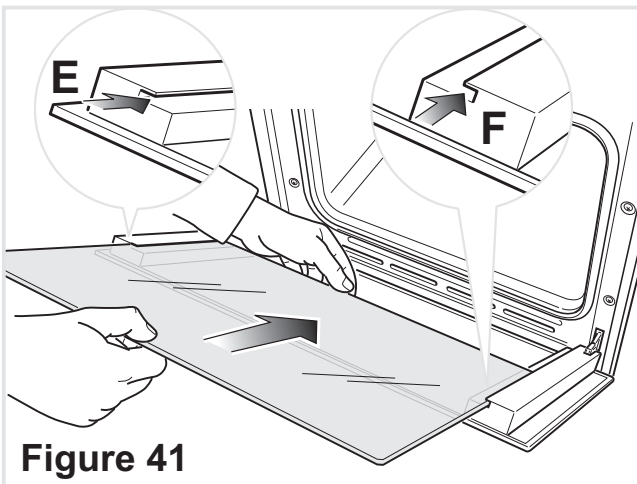
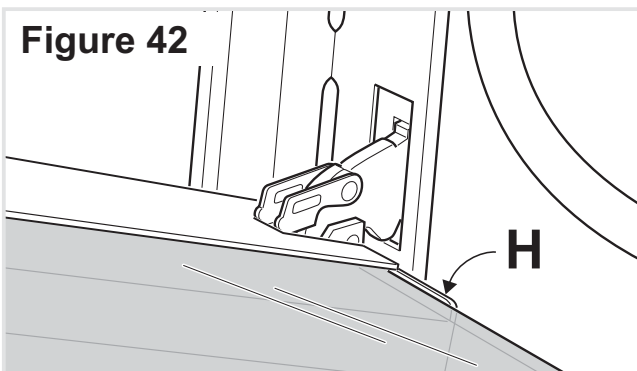

Figure 41
Figure 42
- Insert the pane in the left "E" and right "F" slide guides (fig. 41), and gently slide it to the retainers "H" (fig. 42).